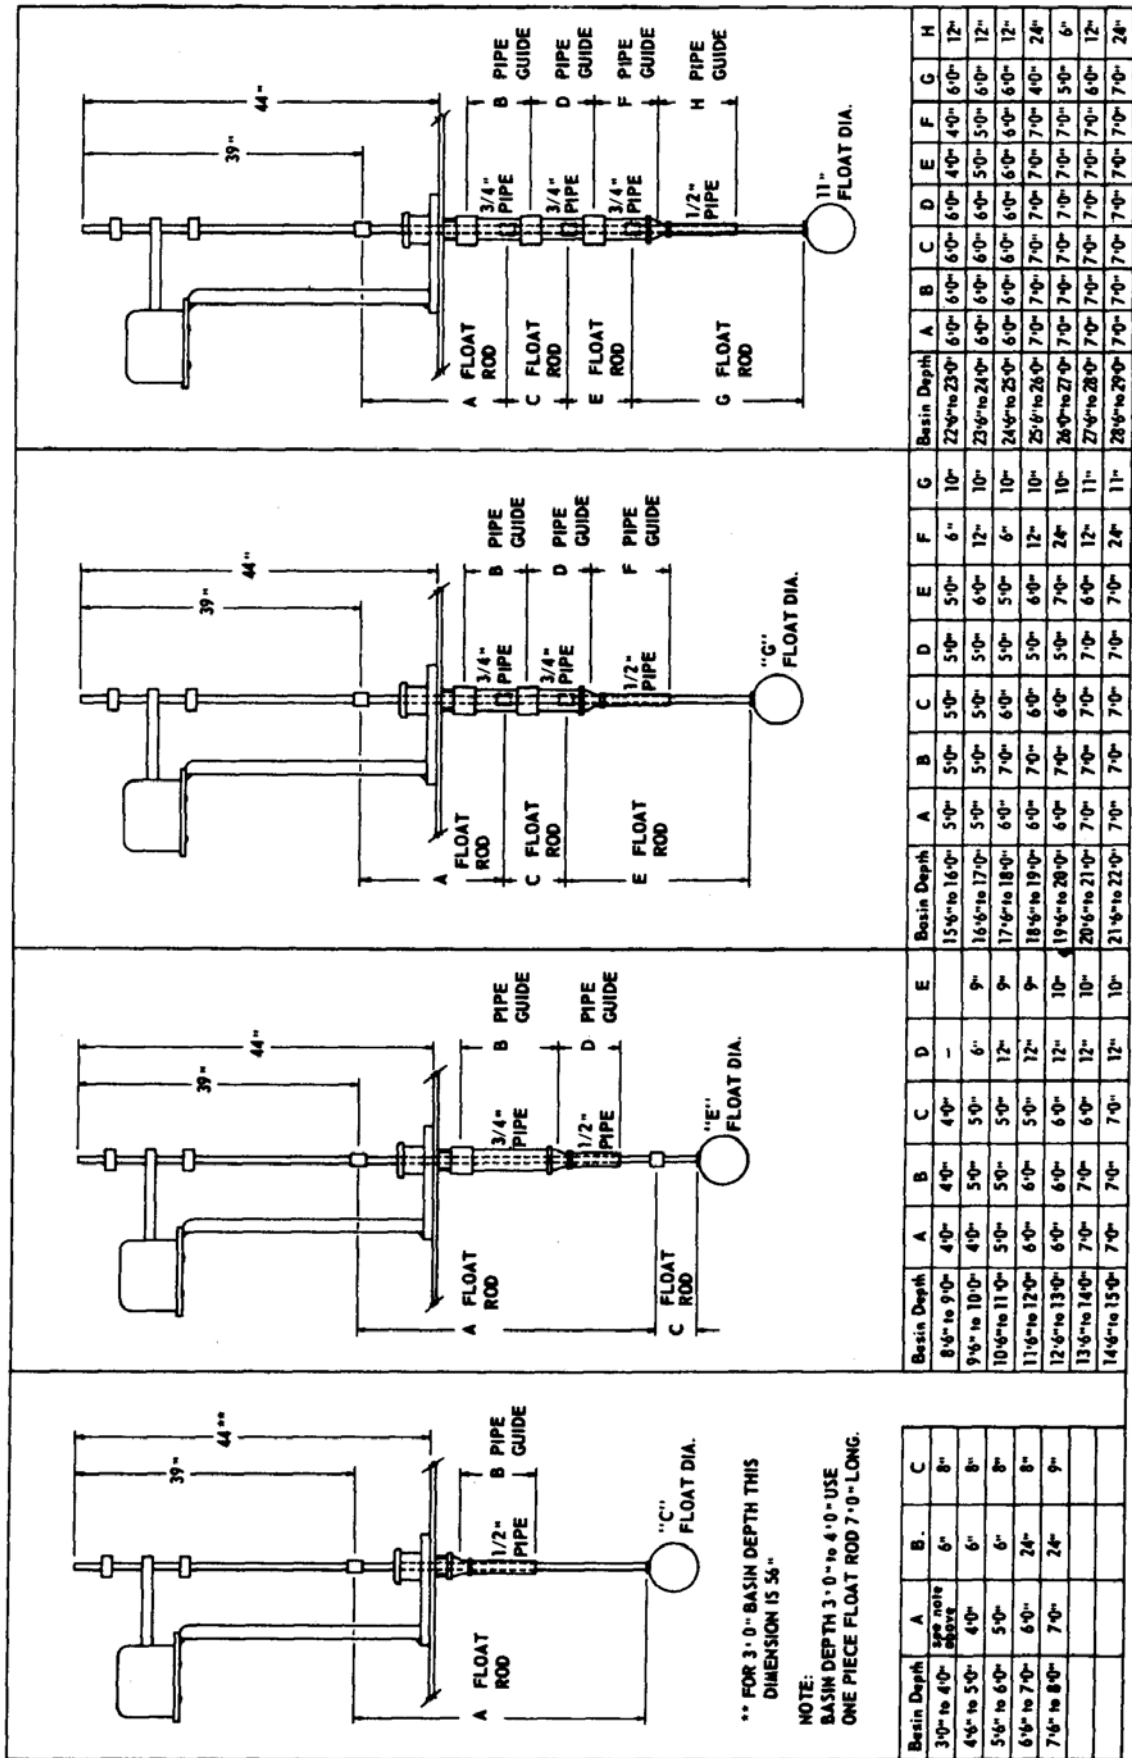

Figure 5. Installation Dimensions, C84A
3. Start the second float rod section (dimension A, figures 5 thru 9) down through the oil seal assembly. For C93A float control, slide the compression spring and washer on the top end of the second float rod section to rest on the washer and compression spring for a C93A, or on the seal assembly for a C84A.
5. From below the basin cover, couple the existing float rods and float rod guide pipes together. Use locknuts on both sides of the float rod couplings. Alternated the assembly of float rod sections and guide pipes (see figures 5 thru 9).